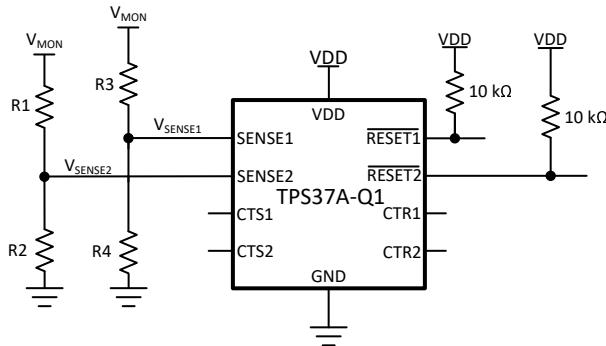

图 10-1. Adjustable Voltage Threshold with External Resistor Dividers
For example, consider a 12 V rail being monitored V_{MON} for undervoltage (UV) using channel 2 of the TPS37A010122DSKRQ1 variant. Using 式 7 and shown in 図 10-1, R_1 is the top resistor of the resistor divider that is between V_{MON} and V_{SENSE2} , R_2 is the bottom resistor that is between V_{SENSE2} and GND, V_{MON} is the voltage rail that is being monitored and V_{SENSE2} is the input threshold voltage. The monitored UV threshold, denoted as V_{MON-} , where the device will assert a reset signal occurs when $V_{SENSE2} = V_{IT-(UV)}$ or, for this example, $V_{MON-} = 10.8V$ which is 90% from 12 V. Using 式 7 and assuming $R_2 = 10k\Omega$, R_1 can be calculated shown in 式 8 where I_{R1} is represented in 式 9: